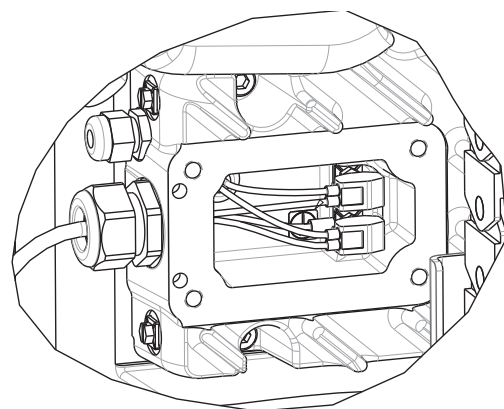

FIG. 45: Wires in Driver Housing
- a. If using an ambient Single Ram Supply System, turn the red Disconnect Switch (AZ) OFF.
- b. If using a heated Single Ram Supply System, turn the red Disconnect Switch (AZ) OFF.
- c. If using an ambient Tandem Ram Supply System, turn the red Disconnect Switch (AZ) OFF only on the Ram Supply Unit the Driver is being removed from.
- d. If using a heated Tandem Ram Supply System, turn the red Disconnect Switch (AZ) OFF only on the Ram Supply Unit the Driver is being removed from.
4. Disconnect power from the Driver (AB):
- a. Remove the Driver housing cover (HC).
- b. Disconnect the wires inside the Driver housing. See FIG. 45.